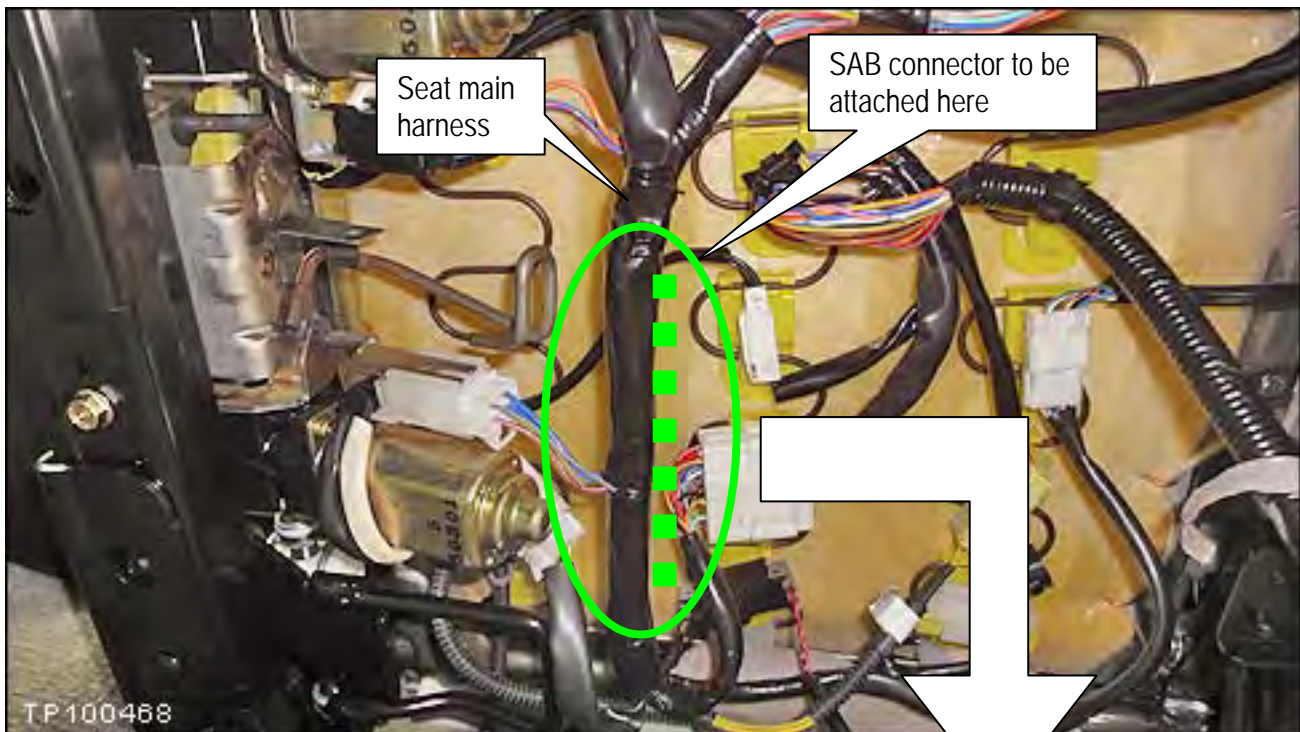

Figure 3b
- a. First, use tie-wraps to secure the SAB connector to the main harness (see Figures 3b, 4b and 5b).